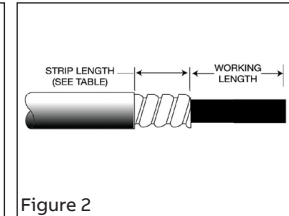

Figure 2
- Trim the outer jacket to adjust the exposed armor strip length as indicated in the table (Figure 2).